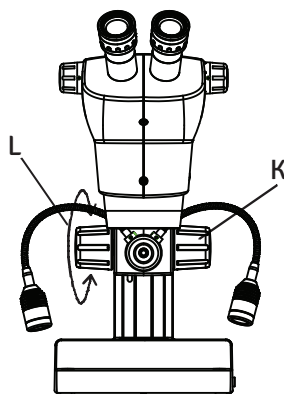

Fig.12
1. Hold firmly the right knob shown as (K). Refer Fig.12.
2. Rotate left knob (L) to clockwise to loosen torque of the focusing mechanism of microscope.